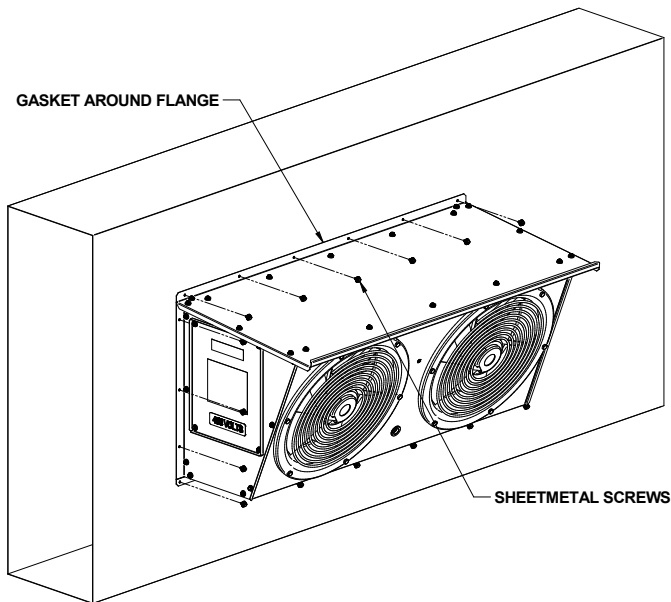

FIGURE 6 – POWER EXHAUST INSTALLED ON DUCT
3. Apply gasket from hardware bag to the mating flanges of the power exhaust. (Fig. 6)
4. Lift power exhaust and install over the duct opening using the #10 x 3/4in. long screws provided. (Fig 6). Make sure wiring harnesses are properly secured.